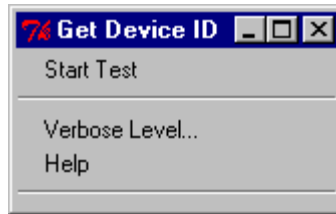

Figure 5-4. Get Device ID Dialog Box
4. Select an individual test from the list. The **Test** menu for the selected test appears. Figure 5-4 shows the **Test** menu for the Get Device ID test: